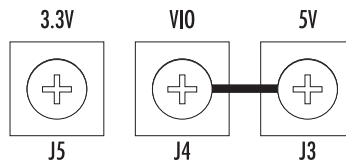

Figure 18. VI/O in the 5V position
2. Connect the jumper between J4 and J3 (see figure 18), then secure it with the Phillips head screws.